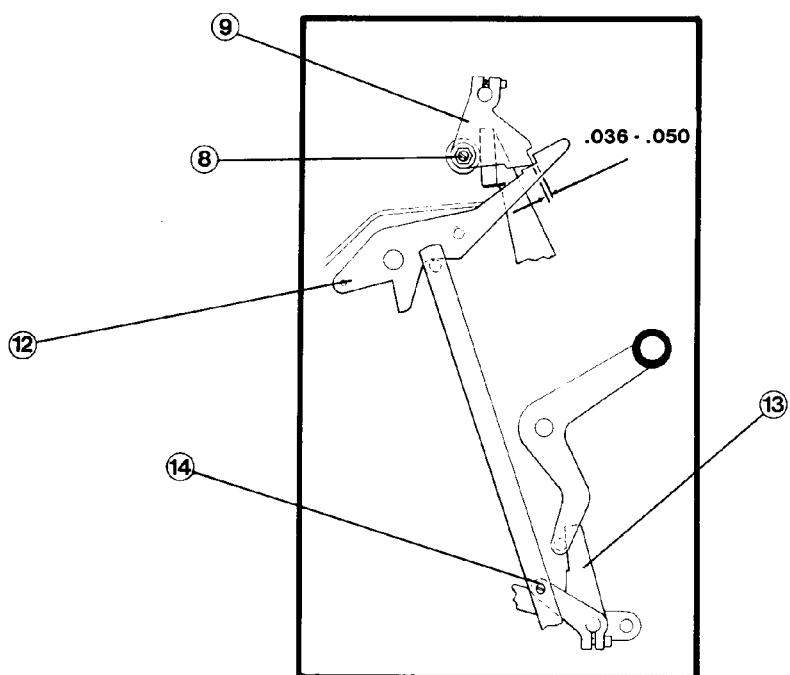

Figure 32- Master Cylinder and Latch Lever
15. Tighten nut (10).
17. Loosen nuts (1) and adjust screws (2) for .000" gap between the screws and stop blocks (4).
18. Tighten nuts (1) and check springs (5) for 1-39/64" length.
19. Loosen lock nuts and adjust eccentric screws (15) for a length of 15/16" between blocks. Assure that blocks are in line.
21. Turn handwheel until lever (9) is at its maximum back position.
Adjust screw (8) for a .036" to .050" clearance between lever and latch lever (12) (see Figure 32). Tighten nut.
22. Turn handwheel until counter operating lever (13) is at its maximum forward position. Rotate lever (9) and adjust screw (14) for latch lever (12) to fully engage the master cylinder lever.